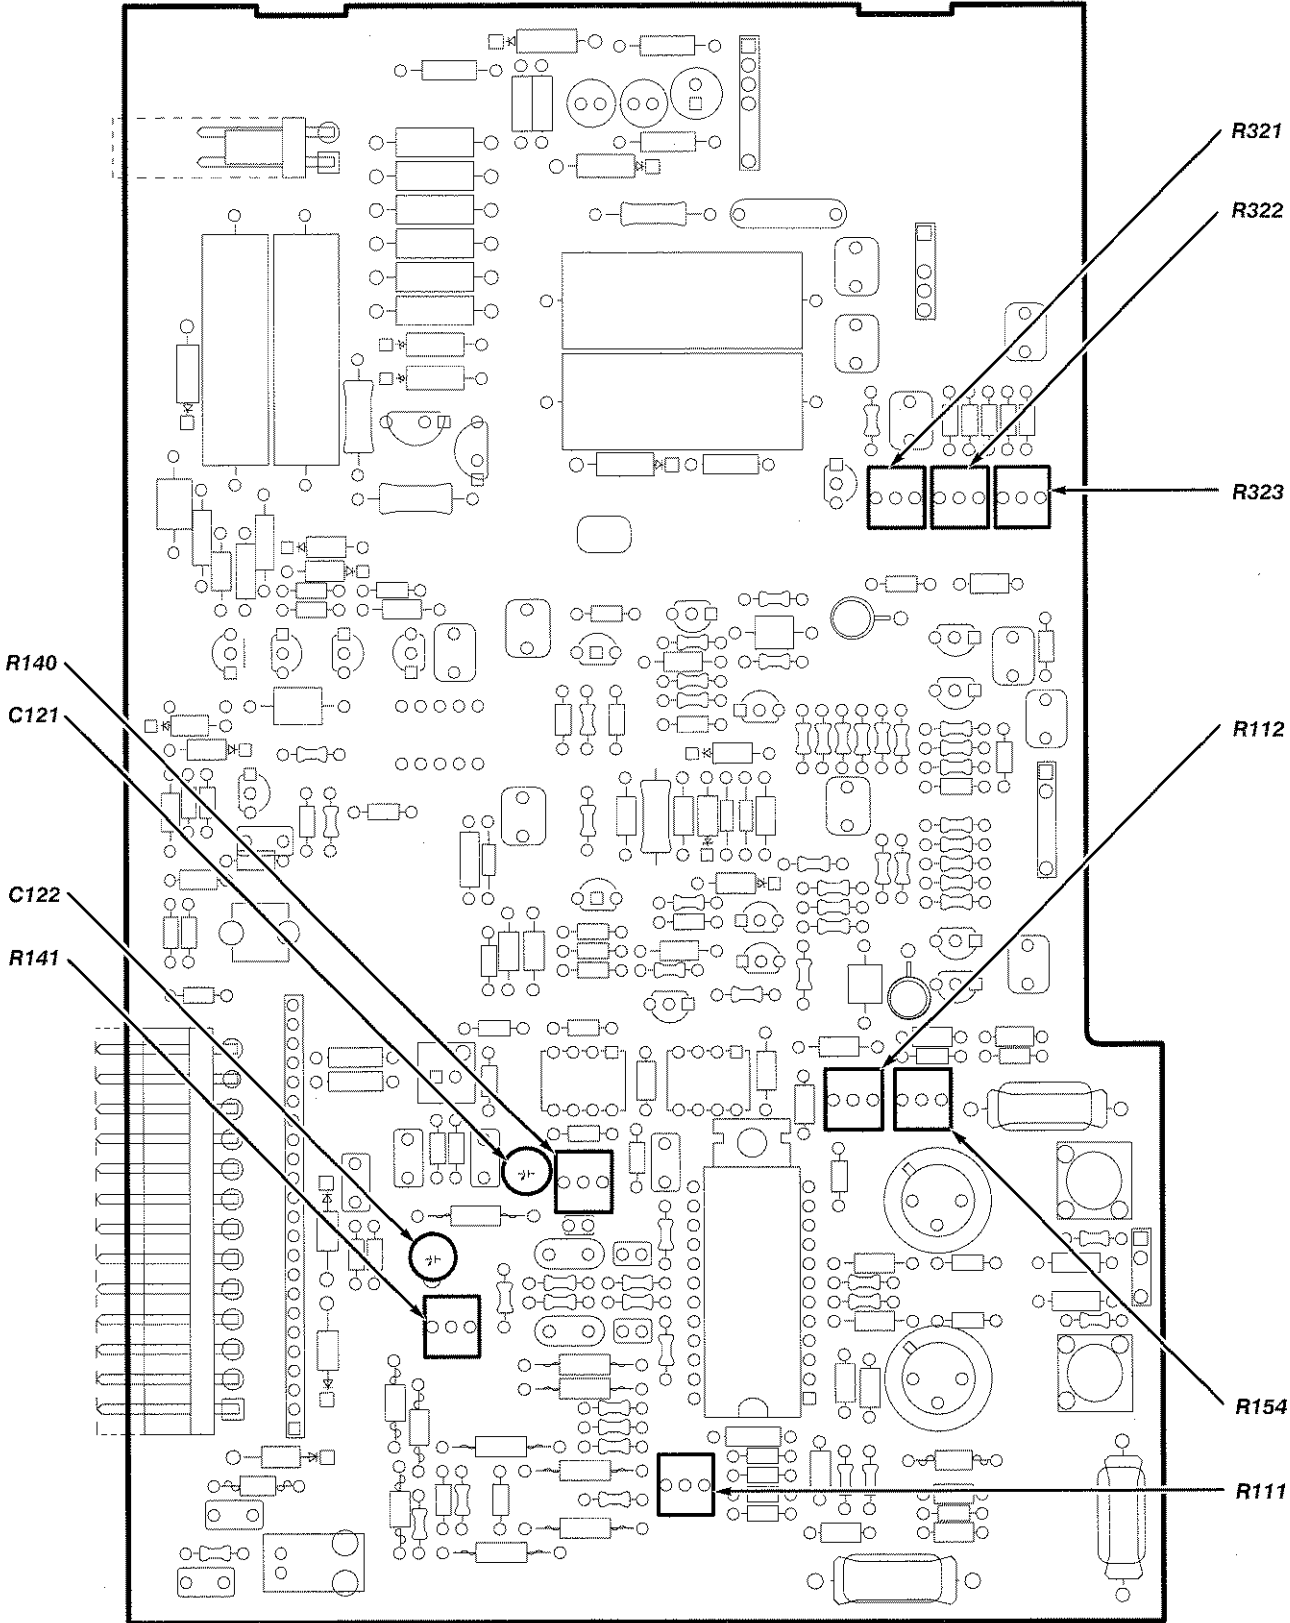

Figure 7-14: Display Driver Board Adjustment Locations
**Adjustment Locations:** This procedure requires adjustments to the Display Driver board. See Figure 7-14 on page 7-19 for the location of the adjustments.